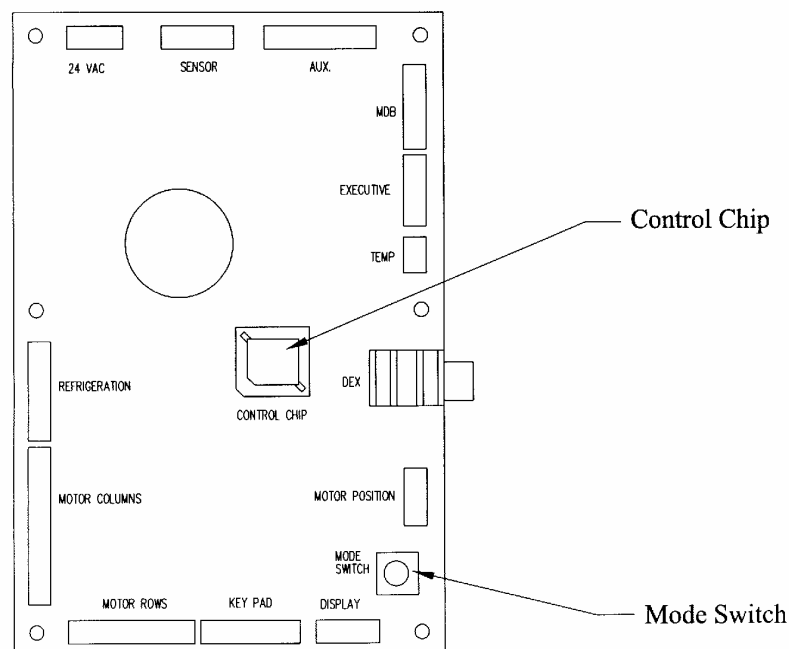

Figure 6. Control Chip
2. Locate the control chip (see Figure 6).